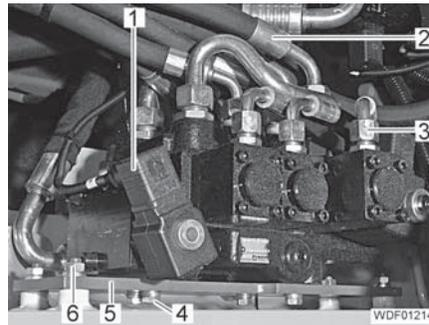

Fig. 166 Control valve attachment
- Position plate (Fig. 166,5) and screw and tighten 4 screws (Fig. 166,4) with spring lock washers and disks.
- Screw the 4 nuts (Fig. 166,6) with spring lock washers and disks onto the thread and tighten.
- Screw the hydraulic lines (Fig. 166,2) onto the connection on the control valve and tighten.
- Screw the hydraulic lines (Fig. 166,3) onto the connection on the control valve and tighten.
- Plug the connectors (Fig. 166,1) onto the contacts and secure with 1 screw for each.